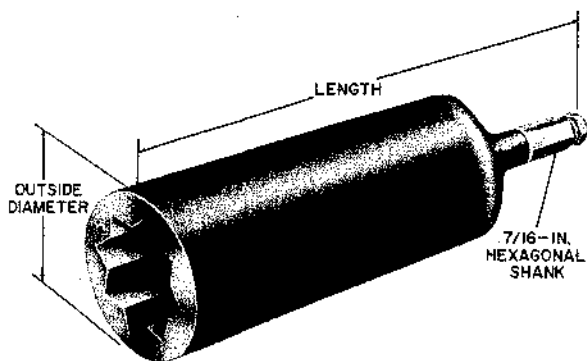

Fig. 3—B Socket
2.03 The B socket (Fig. 3) has 8 points as shown and a 7/16-inch hexagonal shank to fit the chuck of the B impact wrench.